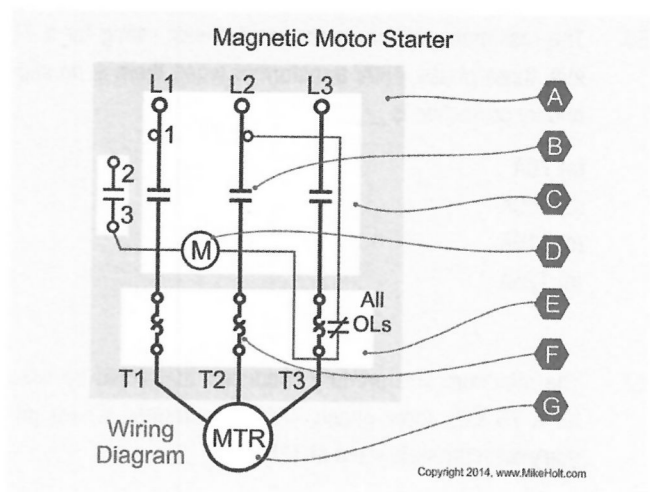

Figure 3
60. In Figure 3, the magnetic motor starter is designated by the letter ____.
61. In Figure 3, the power contacts for the magnetic motor starter are designated by the letter ____.
62. In Figure 3, the coil for the magnetic motor starter is designated by the letter ____.
63. In Figure 3, the overload relay assembly for the magnetic motor starter is designated by the letter ____.
64. In Figure 3, the motor that's supplied by the magnetic motor starter is designated by the letter ____.
65. In Figure 3, the thermal overload (heater) is designated by the letter ____.